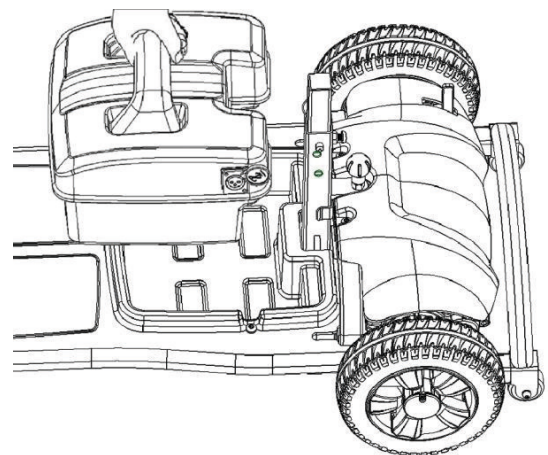

Fig 6.2
4. Pick up the battery pack and remove it from the scooter. (See Fig. 6.2)